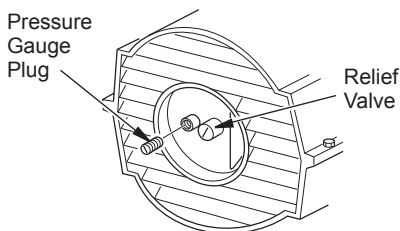

Figure 16 - Pressure Gauge Plug Removal (40/55/60/70 Models Shown)
1. Remove pressure gauge plug from filter end cover (see Figure 16).